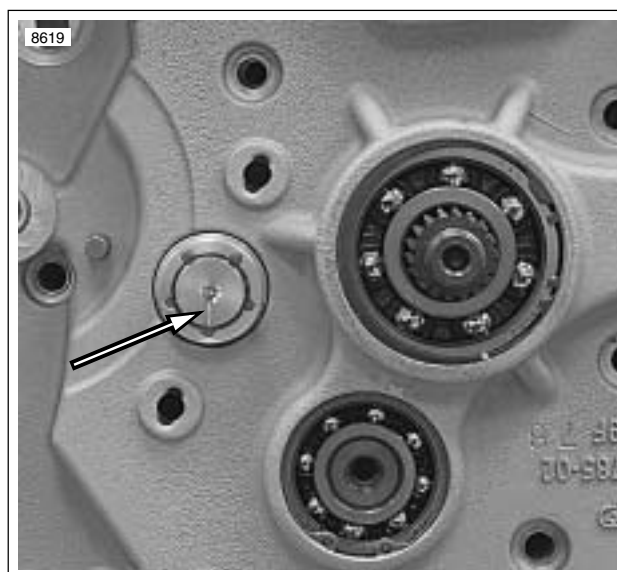

Figure 6-51. Scribed Line on Shifter Drum at 6 O'clock (Transmission in 4th Gear)
15. See Figure 6-51. Place transmission in 4th gear. The scribed line should now be at the 6 o'clock position.